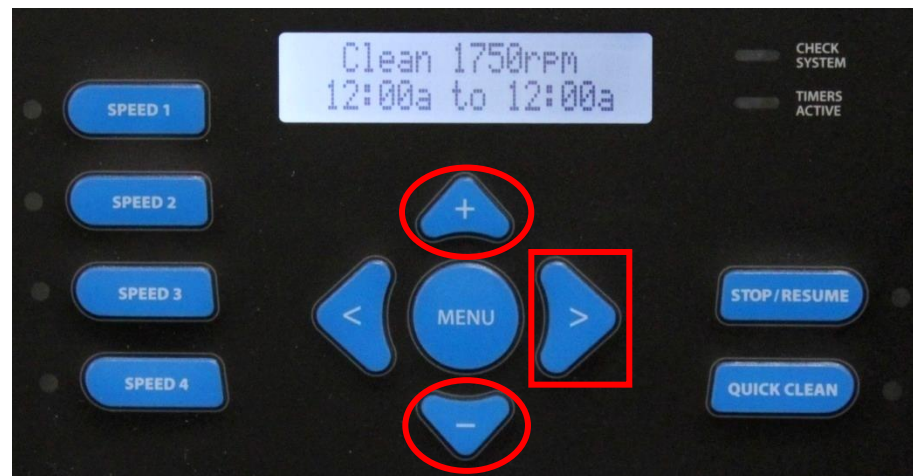

Figure 47
6. This screen will allow you to change the start and stop time for the specific timer. Start time will be blinking, press the  &  buttons to change. Press the  button to change the stop time, also using the  &  buttons (fig 47). Press the  button to continue.